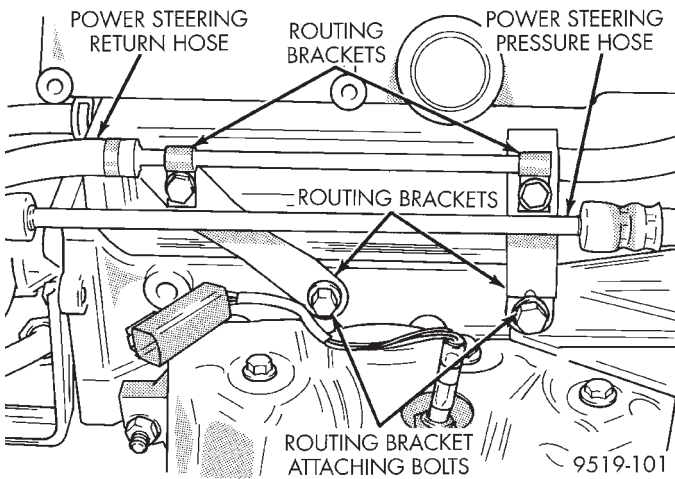

Fig. 19 2.5 Liter Power Steering Hose Routing
(7) **If vehicle is equipped with a 2.5 liter engine,** remove the 2 routing brackets (Fig. 19) attaching the power steering return hose to the power steering pressure hose routing brackets.
(8) **If vehicle is equipped with a 2.5 liter engine,** install the 2 routing brackets (Fig. 19) attaching the power steering return hose to the power steering pressure hose routing brackets.